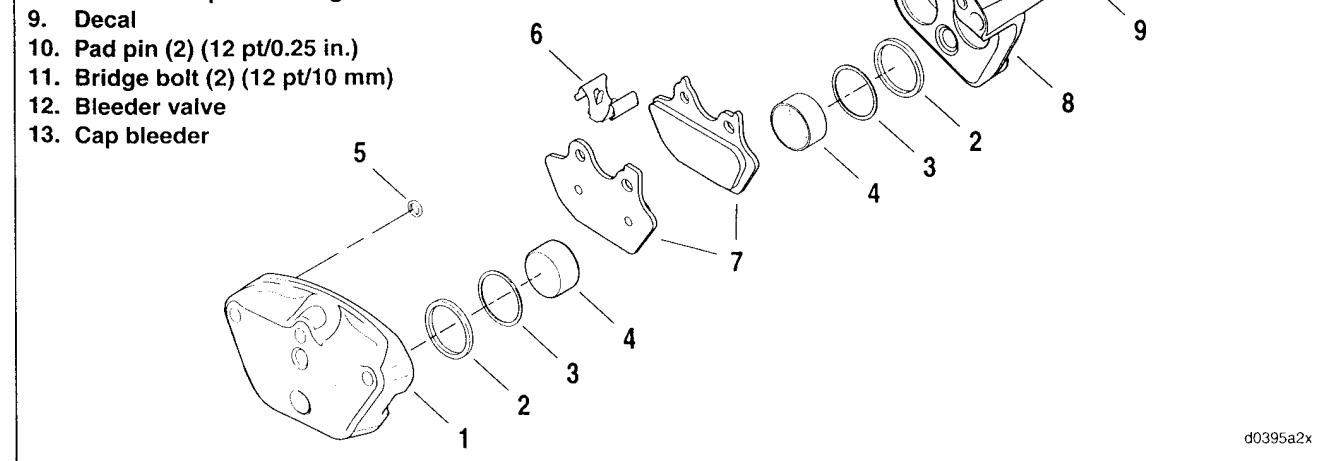

Figure 2-71. Front Brake Caliper
- See Figure 2-71. Remove pad pins (10) (12 pt/0.25 in.), brake pads (7) and bridge bolts (11) (12 pt/10 mm) to separate caliper housings (1, 8).
- Washers (2)